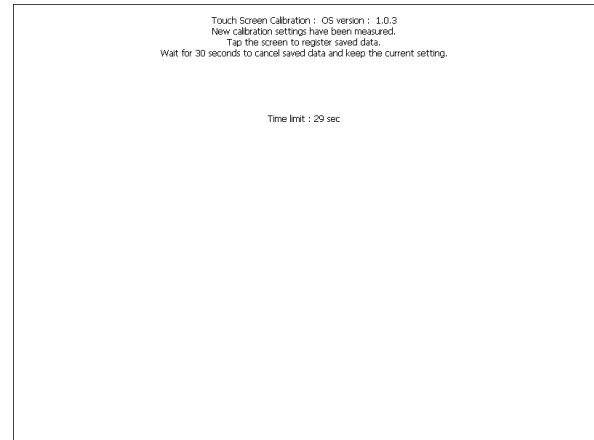

Figure 29: Touch Screen Calibration: Completed
3. When the last target has been touched, the Figure 29 will be displayed to inform you the 'New calibration settings have been measured'.